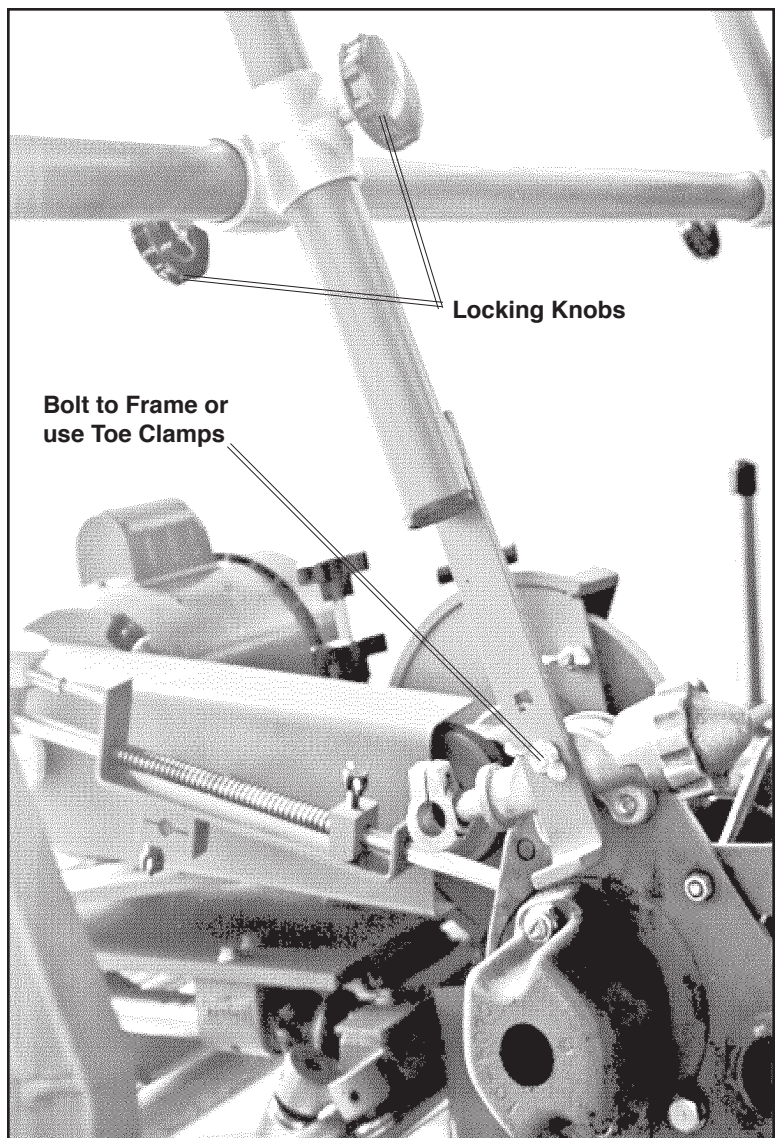

Figure 3.1 Overhead clamps
3.2.2 Lift the reel mower and place its roller rest in the v-supports (Figure 3.1).